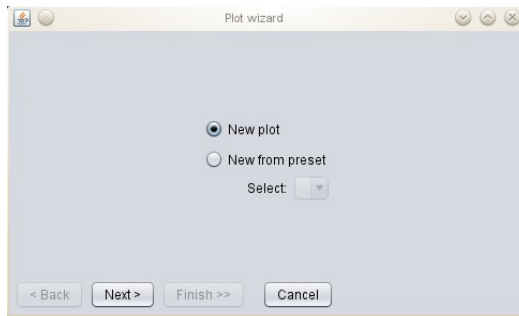

Figure 17: Creating new plots
1. Select a new plot, or making a plot from preset (see figure 17). Click Next when done.